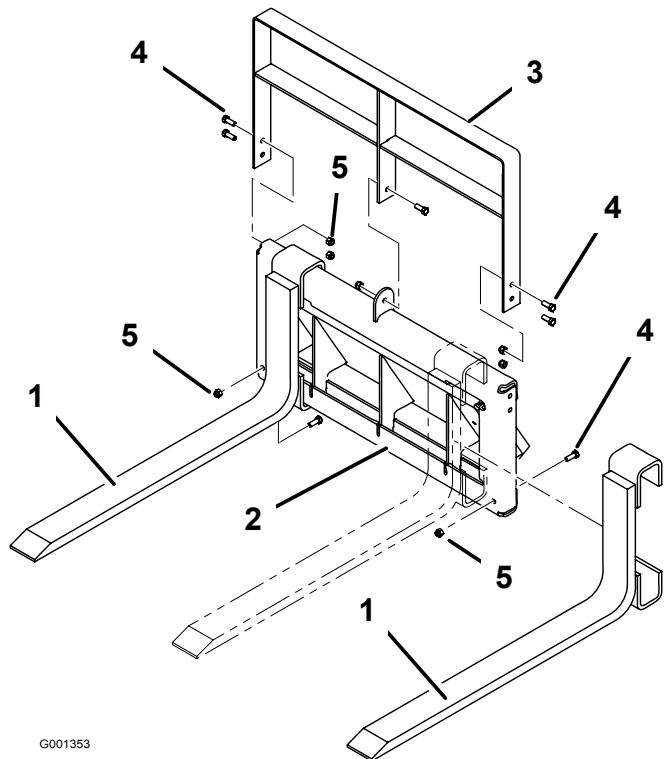

Figure 3
1. Install the forks over the adjustable fork frame as shown in Figure 3. Secure each fork with a bolt (3/8 x 1 inch) and locknut (3/8 inch).
2. Install the upper fork frame over the assembly as shown in Figure 3. Secure the upper frame using 5 bolts (3/8 x 1 inch) and 5 locknuts (3/8 inch).